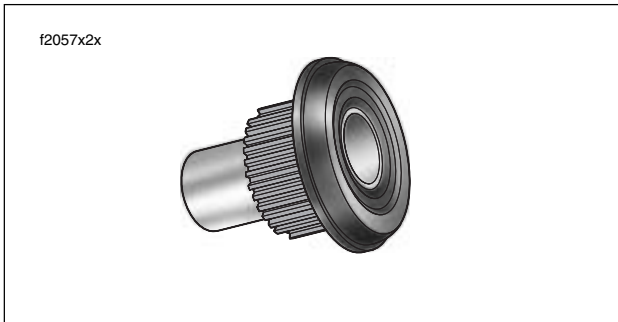

Figure 2-125. Remove Spacer From Lower Bushing
7. Pull bushing and spacer from fork bracket bore. Remove spacer from bushing. See Figure 2-125. Discard bushing.
12. Pull bushing and spacer from fork bracket bore. Remove spacer from bushing. See Figure 2-125. Discard bushing.
1. Insert spacer into **new** bushing until flush with outboard side of collar. See Figure 2-125.
7. Insert spacer into **new** bushing until flush with outboard side of collar. See Figure 2-125.